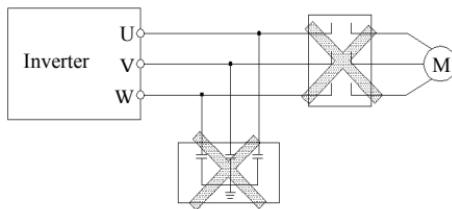

Fig.3-6 Forbid use contactor and absorbing capacitor
- (1) Assure power be cut off completely for above 10 minutes before wiring, otherwise there is danger of getting electric shock.
- (2) Forbid connecting power wire to output U, V, W of the inverter.
- (3) If there is current leakage inside inverter, inverter and motor must be earth grounding for safety assurance, please refer to clause 8 in Chapter 3.4.1 for grounding wiring.
- (4) Before shipment compression resistance test of the inverter is Passed, so users should not conduct compression resistance test again.
- (5) Do not add absorbing capacitor or other resistance-capacitor absorbing device between inverter and motor; also do not add electromagnetic contact. If contactor and other switch component needed to add, please make sure inverter suspended without output, show as Fig.3-6
- (6) To provide inverter over-current protection in output side and convenient maintenance under power off, it should be connected to power source through air switch and contactor.
- (7) Control signal wire should select multi cores stranded wire or shielding wire. One end of the shielding layer hang in the air, and the other end connect to inverter earth grounding terminal, connection wire shorter than 20m.